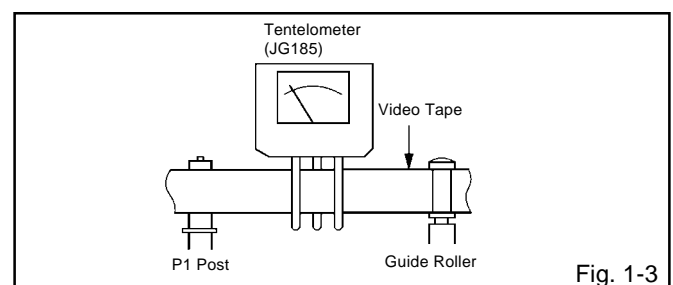

Fig. 1-3
- Install the tentelometer (JG185) as shown in **Fig. 1-3**. Confirm that the meter indicates 20 ± 2 gf in the beginning of playback.
- After confirmation and adjustment of Tension Post position (Refer to item 1-2), load the cassette type torque tape (**KT-300NR**) and set to the PLAY mode.